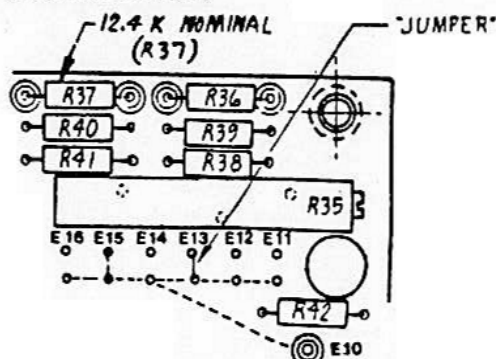

Figure 5.6. Location of Frequency Correction Compensation Jumpers on Synthesizer Board Assembly.
The C-field current is adjusted by changing pre-selected jumper wires on the synthesizer board assembly. Refer to Figure 5.6.
Terminal E15 is normally jumpered to E10 at the factory, (dotted-line connections in Figure 5.6). On some UUT's the jumper was not required. If the UUT does not have a jumper between E10 and either E16, E15, or E14, perform subsection 5.14.3. If a jumper is connected between E10 and either E16 or E15 omit subsection 5.14.3 but perform 5.14.4. If E10 is jumpered to E14, omit subsections 5.14.3 and 5.14.4 but perform subsection 5.14.5.
- 5.14.3.1 Locate terminal E16 and the corresponding E10 connection on the synthesizer board, refer to Figure 5.6, as necessary.